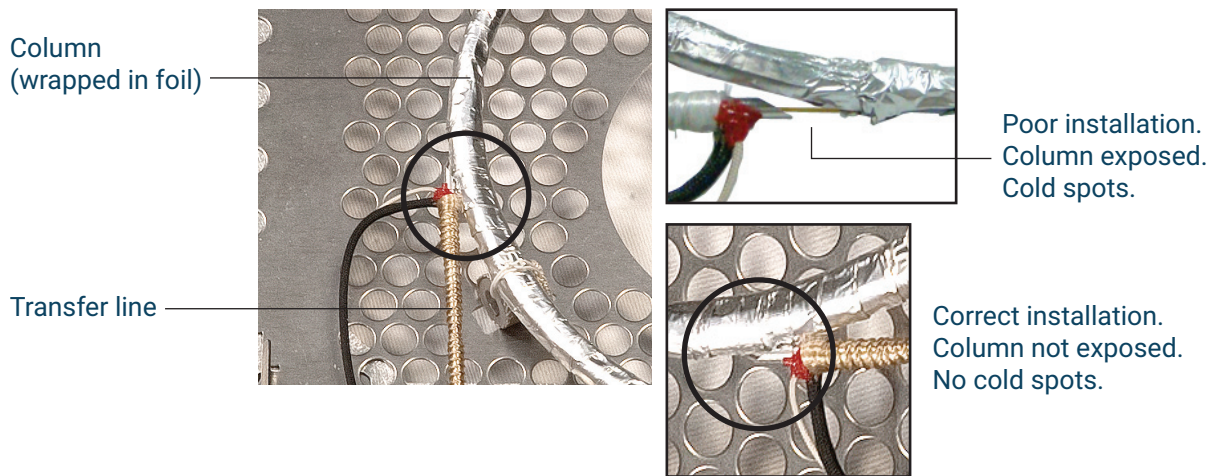

Figure 24. Correct installation of column into transfer line
- The wrapped column should just meet the end of each transfer line. (See Figure 24.)